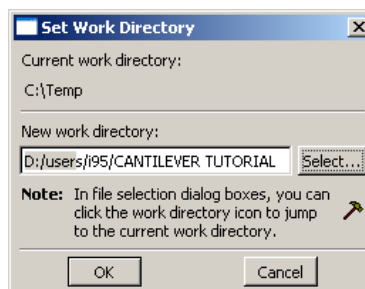

Figure 28. Set Work Directory (FOLDERS)
- The **Set Work Directory** screen will immediately appear (Figure 28). Click **Select...** and use standard Windows practice to select (and possibly create) a subdirectory.